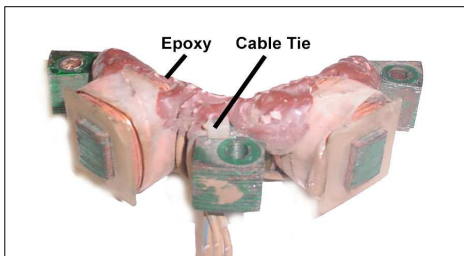
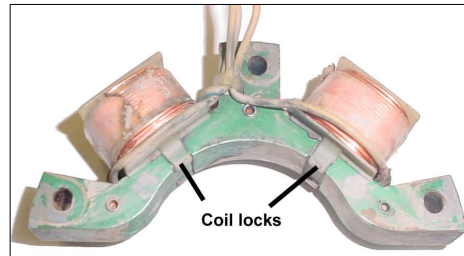

Fig. 3
Fig. 4
9. In a well ventilated area, use a heat gun and heat the brown epoxy securing the old coils to the frame. (Fig. 3) Carefully pry the epoxy off until the coils are fully exposed. Cut the cable tie and the coil locks. (Fig. 4) Then carefully pry the old coils off of the frame.